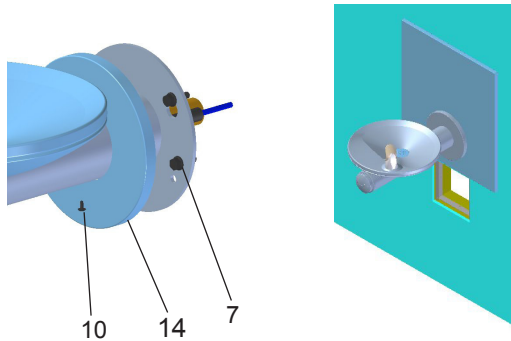

Figure 10 - Fountain Installation
- Install fountain.** Remove screw (Item 10) from cover plate and slide cover plate (Item 14) toward basin. (See Figure 10)